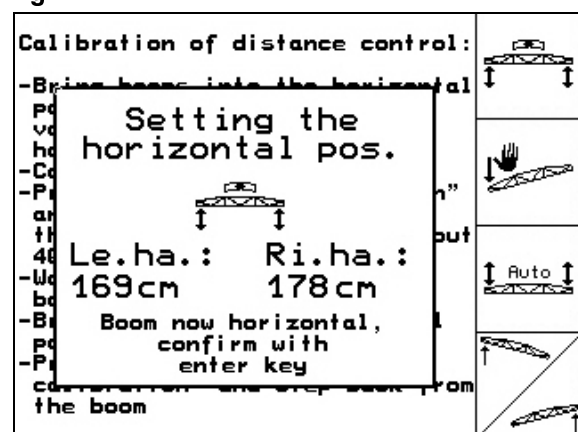

Fig. 29
- Using the  and  keys align the booms horizontally. The actual height of the two sensors is permanently displayed (Fig. 29).